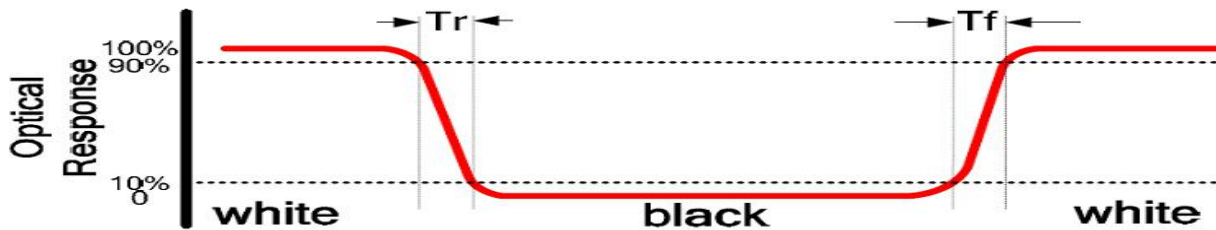

FIG2. Measuring method for Contrast ratio,surface luminance,Luminance
Note2.contrast Ratio(CR) is defined mathematically by the following formula ,For more information see FIG2.
see FIG2.